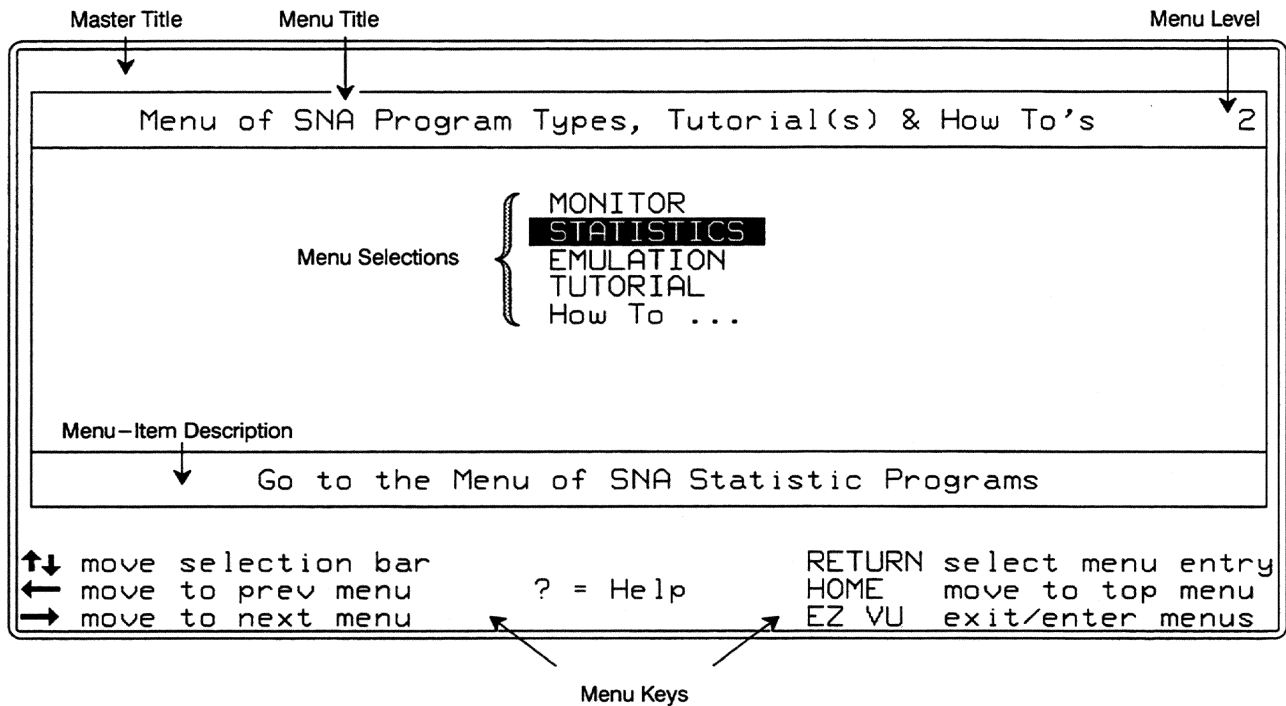

Figure 4-4 A second-level Easy View menu screen. To access this menu, select *SNA* on the Easy View Main menu and press **RETURN**.
Easy View menu screens have the format shown in Figure 4-4.
1. *Master title.* The top line of the screen may contain a master title. This title is centered at the top of all Easy View menu screens. In Figure 4-4, it is blank. See Section 20.5 for information on defining a master title.
4. *Menu selections.* The center box on the screen displays the menu items. A reverse-video cursor bar highlights the selected menu item. In Figure 4-4, *STATISTICS* is selected for *SNA* protocol.
Figure 4-5 Statistic program selections for SNA protocol. To access this menu from the screen shown in Figure 4-4, position the selection bar over *STATISTICS* and press **RETURN**.